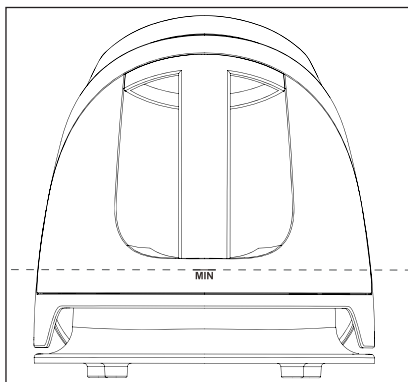

Fig. 1
- As soon as the fill level of the water tank **7** falls below the **MIN** mark (see Fig. 1), no more water is pumped into the steam chamber and the steam output stops.